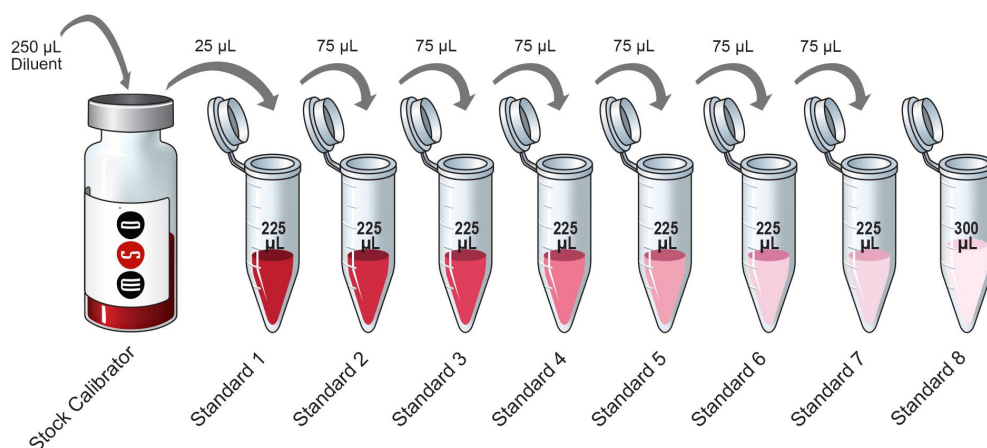

Figure 5. Dilution schema for U-PLEX calibrator standards for singleplex assays.
The following instructions are for the preparation of 7 Calibrator Standard solutions plus a Zero Calibrator Standard for use in an 8-point standard curve (Figure 5; Table 9).
- Prepare Calibrator Standard 1 by adding 25 μL of the reconstituted Calibrator to 225 μL of Assay Diluent (Figure 5). Mix by vortexing.